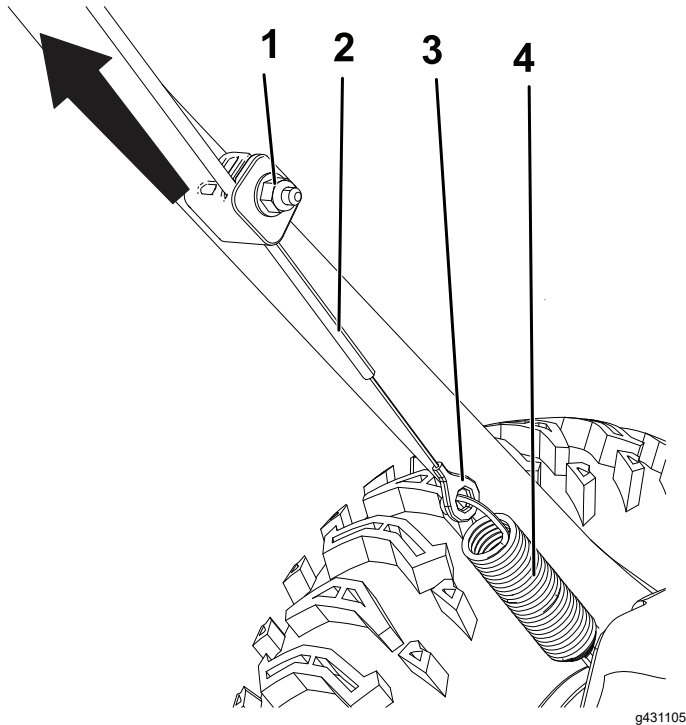

Figure 20
1. Loosen the nut on the lower cable clamp, but do not remove it (Figure 20).
2. Pull the cable up to remove some slack (Figure 20).
3. Hold the cable in place and tighten the nut (Figure 20).